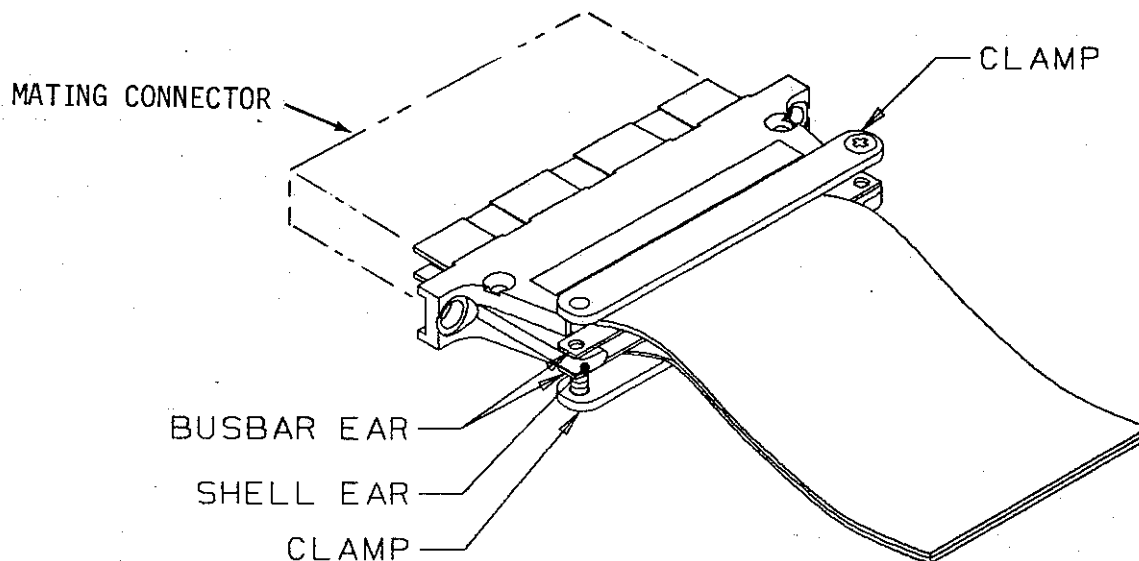

Figure 20. Installing Cable Clamps
2. Install the cable clamps at the rear of the backshells (Figure 20).